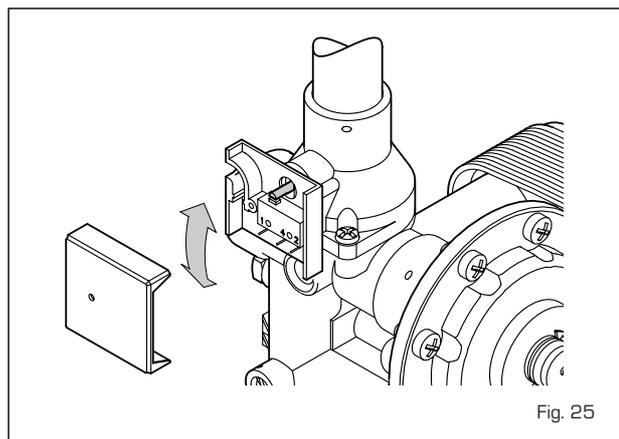

Fig. 25
- Ensure the spindle is free to move (see fig. 25).